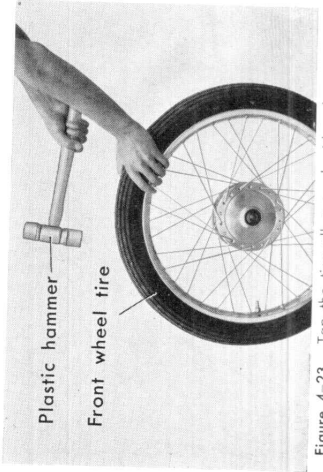

Figure 4-23. Tap the tire all around with a hammer
- a. After reassembly of the tire, fill the tire with air to about 2/3 of the specified pressure and tap the tire all around with a soft faced hammer to eliminate any tube twist or pinching. (Fig. 4-23)